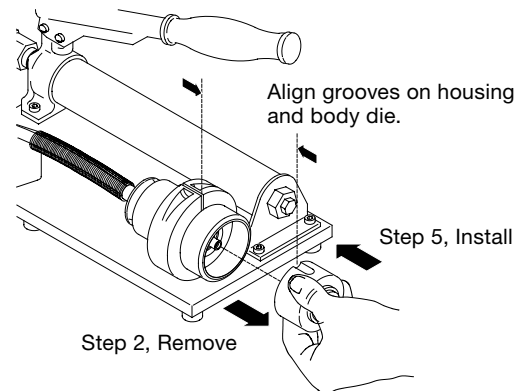

Fig. 2 Body Die Removal / Installation
2. Remove the previously installed **die head** from the **hydraulic housing**. See Fig. 2.
5. Install the selected **die head** into the **hydraulic housing** and align the notch on the die head with the **locating pin** on the hydraulic housing. See Fig. 2.